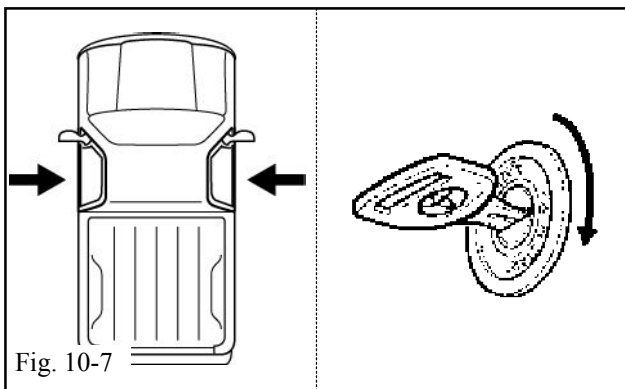

Fig. 10-7
- (j) Verify that all doors are closed. (Fig. 10-7)
- (1) Do not close the Hood.
- (k) Insert the Key into the ignition and turn it to the "ON" position. (Fig. 10-7)
- (l) Turn the Key to the "OFF" position and remove it from the ignition. (Fig. 10-7)